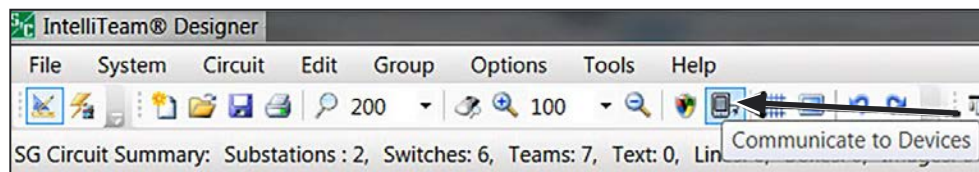
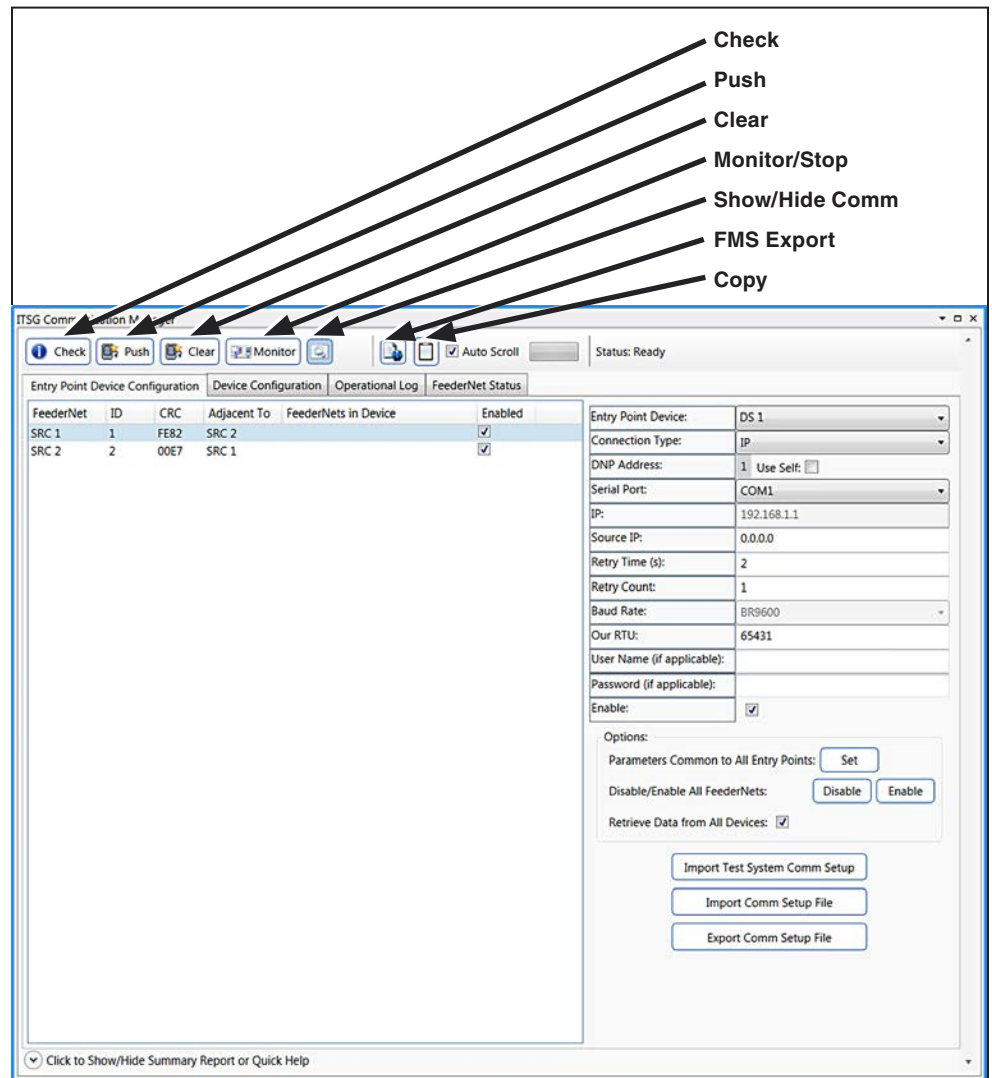

Figure 82. The Communicate to Devices icon.
Figure 83. The *Communications Manager*>*Entry Point Device Configuration* screen.
- STEP 3.** Click on the **Communicate to Devices** icon, which opens the *Communication Manager* screen. See Figure 82 on page 84 and Figure 83 on page 85.
To push the IntelliTeam SG system settings to S&C controls, the settings must be propagated to an entry point device within the FeederNet. And to push the IntelliTeam II system settings to S&C controls, the settings must be sent to each device individually. This is accomplished using the communication manager. See Figure 83 on page 85.
This tab is used for communication setup to entry point devices for the Netlist **Push** process. See Figure 83 on page 85.